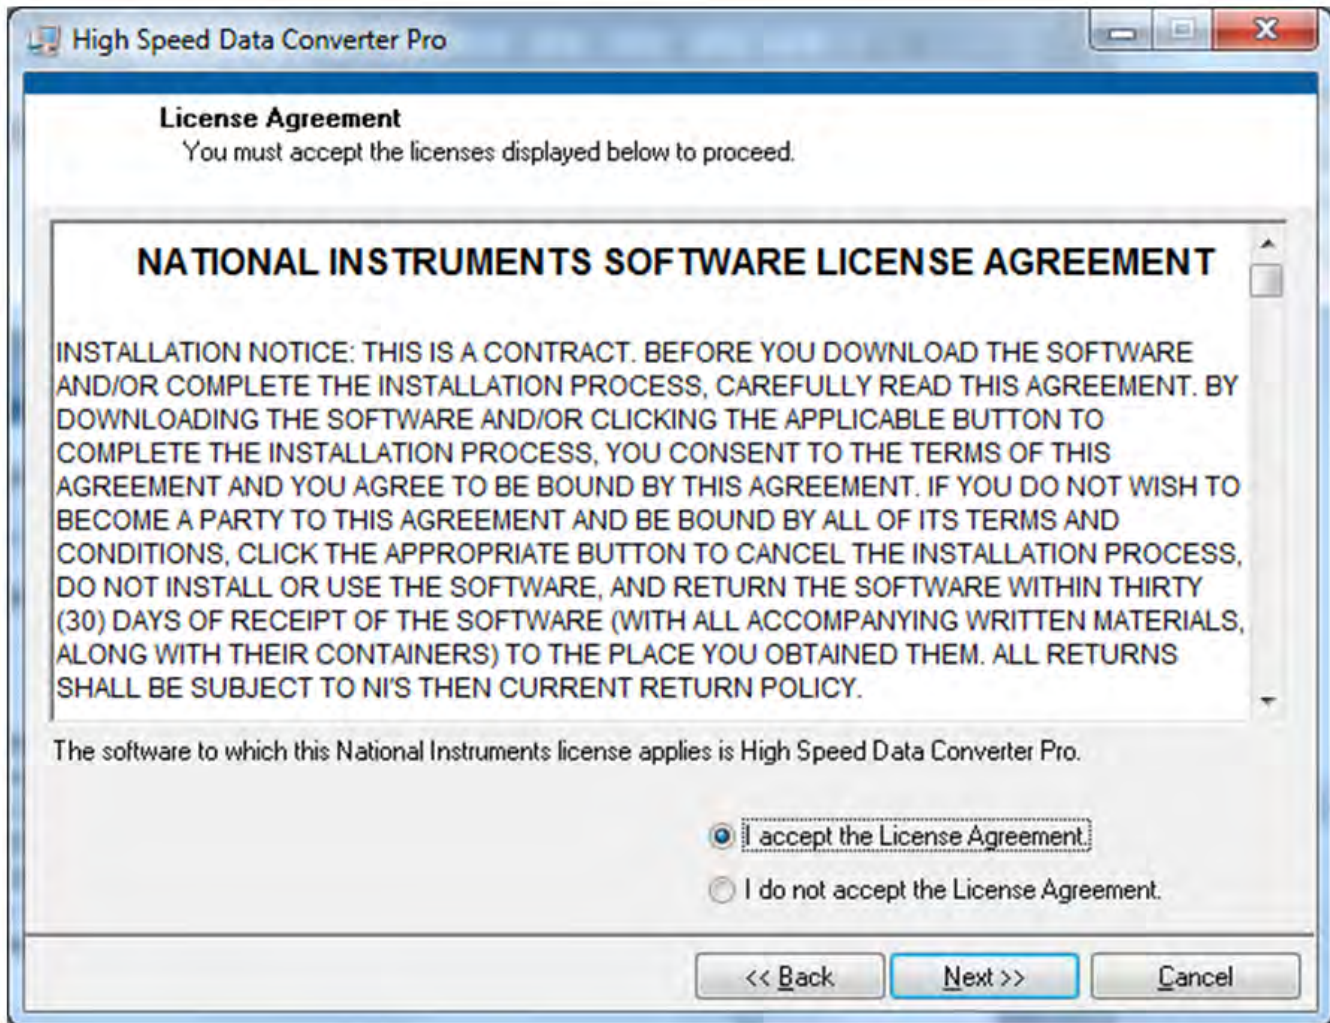

Figure 34. HSDCPro Install (NI License Agreement)
- Read the License Agreement from National Instruments and select *I accept the License Agreement* and press the *Next* button as shown in Figure 34.